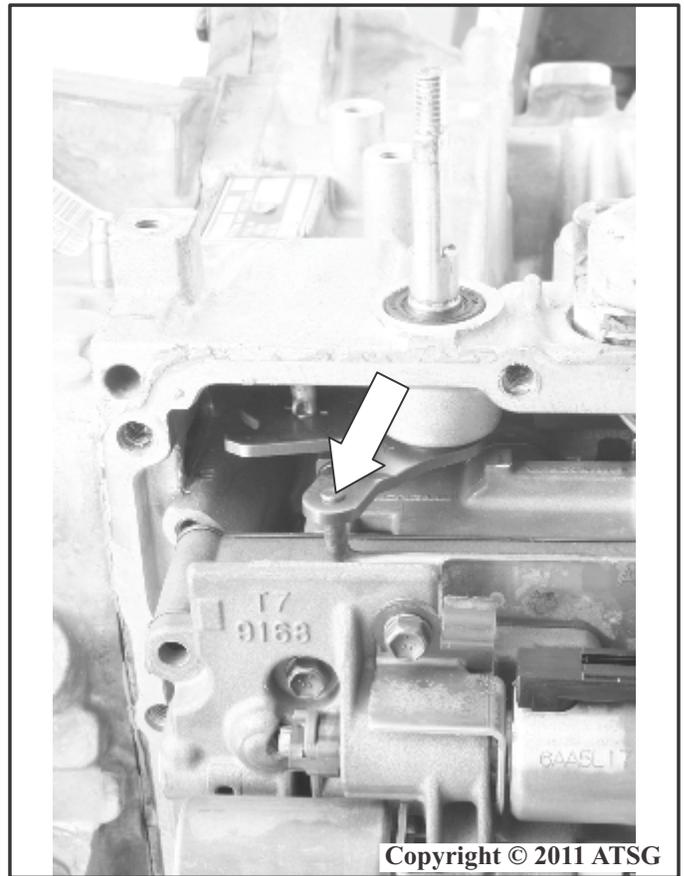

Figure 249
91. While holding the control valve body assembly, install the manual valve link into the manual valve shift detent lever as shown in Figure 249.